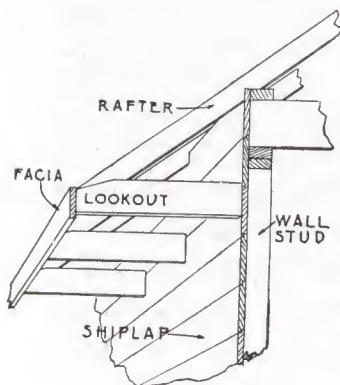

FIGURE 54
of rafters and lookouts (see Figures 54, 55 and 56).
- (c) On a closed cornice, be sure that the fascia projects about $\frac{7}{8}$ of an inch below the rafter or lookout, so as to cover the end of the ceiling under the lookout. (See Figure 54.) If no lookouts are shown on WALL SECTION,